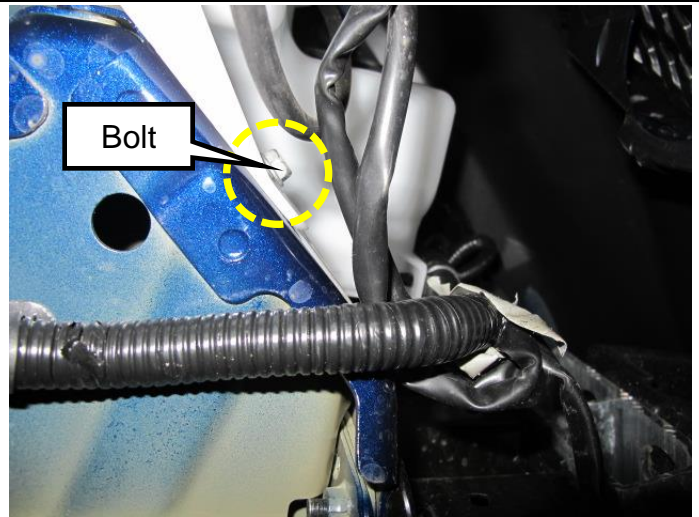

Figure 16
15. Install lower washer tank bolt (Figure 16).